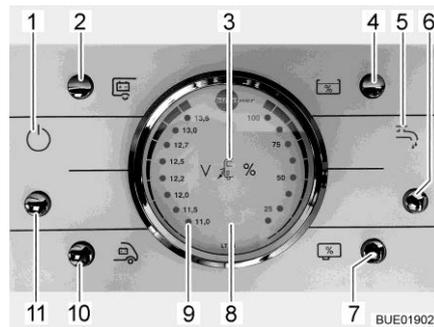

Fig. 183 Panel LT 96
The button (Fig. 183,11) switches the panel and the 12 V power supply to the living area on and off.
Switching on: ■ Press the button (Fig. 183,11): The 12 V living area power supply is switched on. The indicator lamp (Fig. 183,1) lights up.
Switching off: ■ Press the button (Fig. 183,11): The 12 V living area power supply is switched off. The indicator lamp (Fig. 183,1) goes out.
With the V/tank gauge (Fig. 183,8), note the left scale. The gauge automatically lights up as soon as a button is pressed.
- Press the button (Fig. 183,10): The battery voltage of the starter battery is displayed.
- Press the button (Fig. 183,2): The battery voltage of the living area battery is displayed.
With the V/tank gauge (Fig. 183,8), note the right scale. The gauge automatically lights up as soon as a button is pressed.
- Press the button (Fig. 183,4): The volume of water is displayed.
- Press the button (Fig. 183,7): The volume of waste water is displayed.
- Press the button (Fig. 183,6): The water supply is ON. The water pump indicator lamp (Fig. 183,5) lights up.
- Press the button (Fig. 183,6): The water supply is OFF. The water pump indicator lamp (Fig. 183,5) goes out.
The red "ALARM" warning light (Fig. 183,9) flashes as soon as the voltage of the living area battery falls below 11 V (measured under operation) and there is a risk of a total discharge.
The 12 V indicator lamp (Fig. 183,1) lights up when the 12 V main button (Fig. 183,11) is switched on.
The 230 V indicator lamp (Fig. 183,3) illuminates whenever line voltage is available at the transformer/rectifier input.